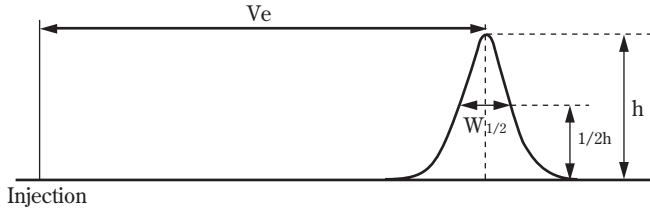

Fig. 4 Method of Calculating the Number of Theoretical Plates
The number of theoretical plates of a column (N) is calculated by the half peak width method shown in Fig.4 and the following equation.